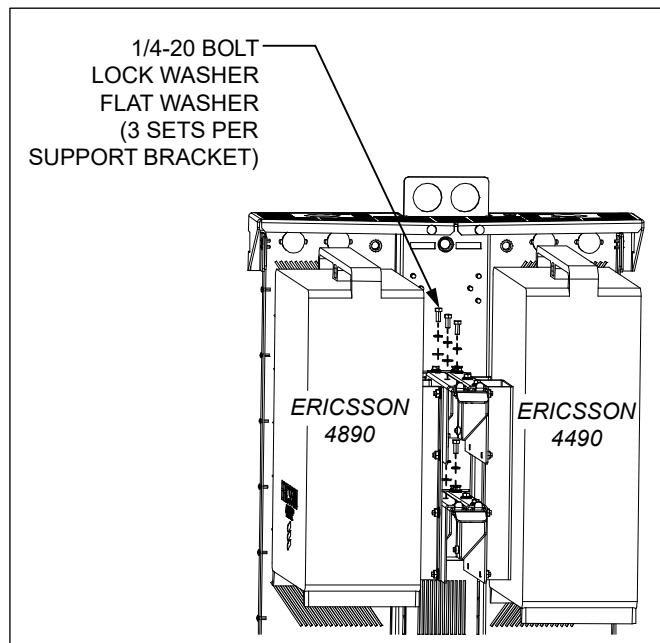

Figure 9 Attach Radios to Support Brackets
2. Attach each radio bracket to the threaded studs on two support brackets (Figure 9). Use four 1/4-20 Keps nuts with flat washers per support bracket.
3. Mount the support brackets onto the support arms in the SHRD60 (Figure 9). Secure each plate with three 1/4-20 hex bolts, three lock washers, and three flat washers reserved from removing components from the SHRD60's original configuration.